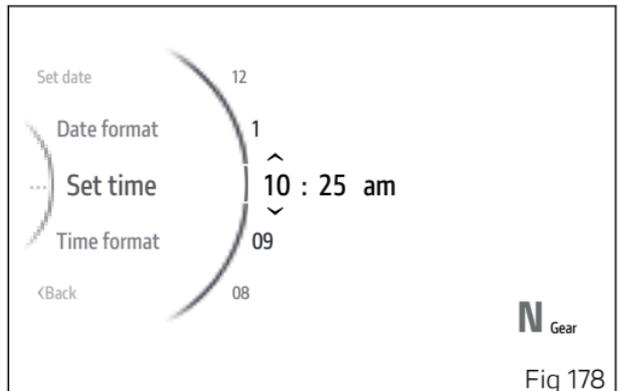

Fig 178
- From the Interactive Menu, use buttons (1) and (2) to select the item "Setting menu" and press ENTER (3).
- Select the "Date and time" item and press ENTER (3).
- Select the "Set time" item and press ENTER (3).
The hour number becomes selectable and is displayed with two arrows placed above and below it; the available values are also displayed above and below the selected parameter (Fig 178). Use buttons (1) and (2) to scroll and select the desired value. Press ENTER (3) to confirm and move on to the number of the minutes.